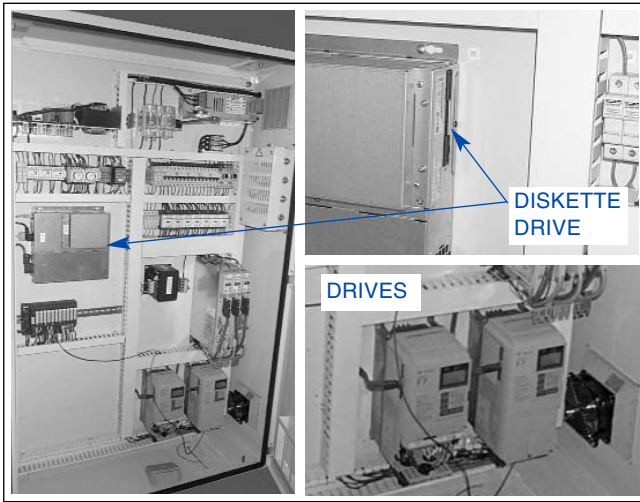

FIGURE 2-11, Electrical Enclosure
8. ELECTRICAL CONTROL ENCLOSURE: Master ON/OFF Switch is located on doors to Electrical Control Enclosure at rear of Machine (see Figure 2-11). It Controls all electrical power to the Machine.